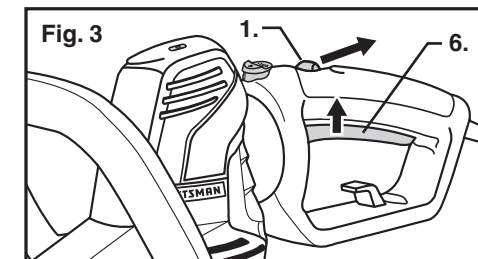

Fig. 3
### STARTING AND STOPPING (See Figs. 3 and 4)
Slide the lock-off button (1) back towards you then squeeze the trigger switch (6) to turn on the hedge trimmer. The trimmer will stay on as long as the trigger switch is squeezed. Lock-off button can be released once hedge trimmer is running. (See Fig. 3)